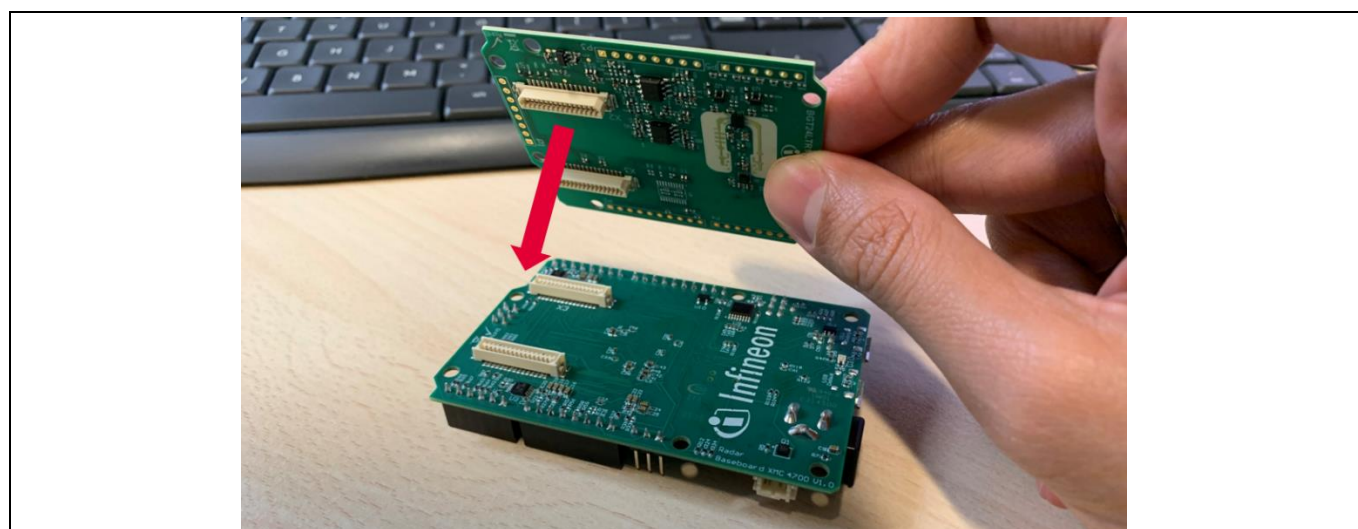

Figure 20 Attach the BGT24LTR11 Sense2GoL Pulse radar shield to the Radar Baseboard XMC4700
4. Attach the BGT24LTR11 Sense2GoL Pulse radar shield to the Radar Baseboard XMC4700 via the SAMTEC connectors (Figure 20).
10. Attach the BGT24LTR11 Sense2GoL Pulse radar shield to the Radar Baseboard XMC4700 via the SAMTEC connectors (Figure 20).